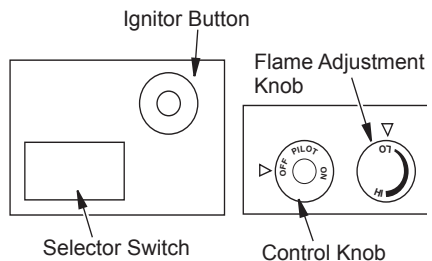

Figure 28 - Control Knob and Ignitor Button Location (Shown as Supplied, No Control Options)
5. Wait five (5) minutes to clear out any gas. Then smell for gas, including near the floor. If you smell gas, STOP! Follow "B" in the safety information, page 20. If you don't smell gas, go to the next step.
6. Press in and turn control knob counterclockwise  to the PILOT position. Press in control knob for five (5) seconds (see Figure 28).